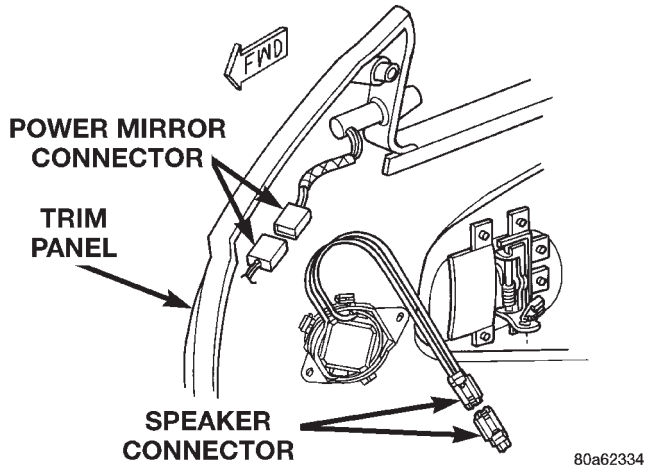

Fig. 24 Speaker And Power Mirror Connector
- (6) Disengage inside handle linkage rod from inside handle.
- (7) Disconnect speaker harness wire connector (Fig. 24).
- (8) Disengage power mirror wire connector, if equipped (driver's side only) (Fig. 24).